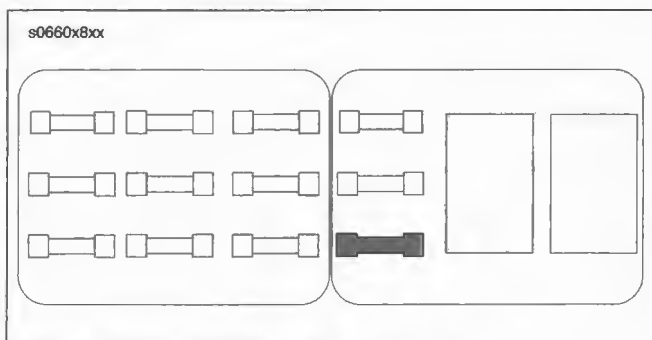

Figure 4-4. Fuel Pump Fuse: View From Top
- a. See Figure 4-4. Disconnect the fuel pump fuse from the main wiring harness.
9. See Figure 4-4. Connect the fuel pump fuse to the main wiring harness.